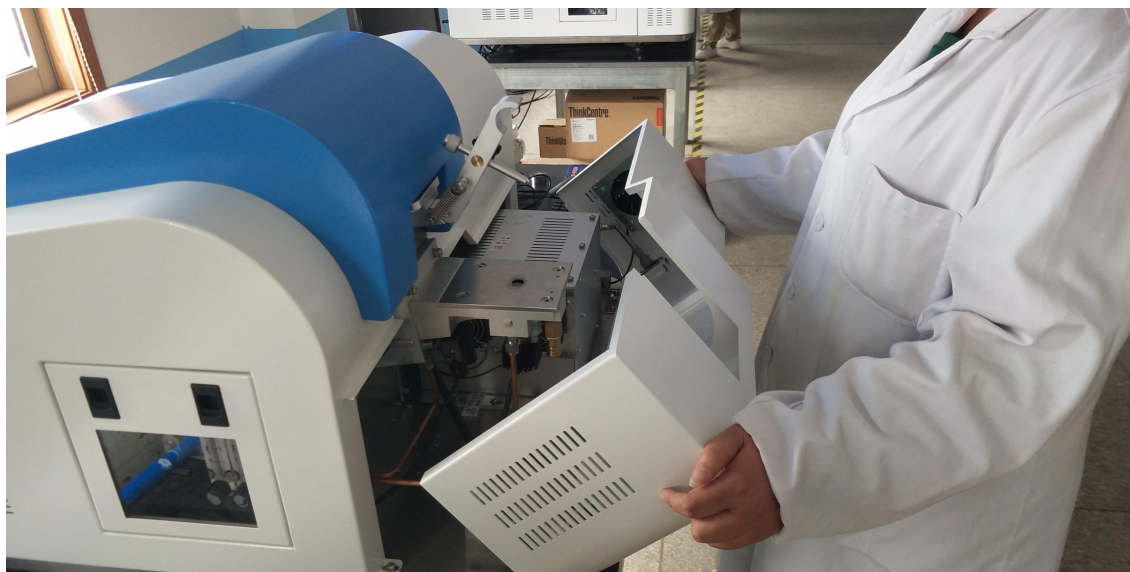

Figure 6-5 Opening the front door of the instrument
Step 1 Turn off the light source and the main power button to open the front door of the machine, as shown in Figure 6-5: